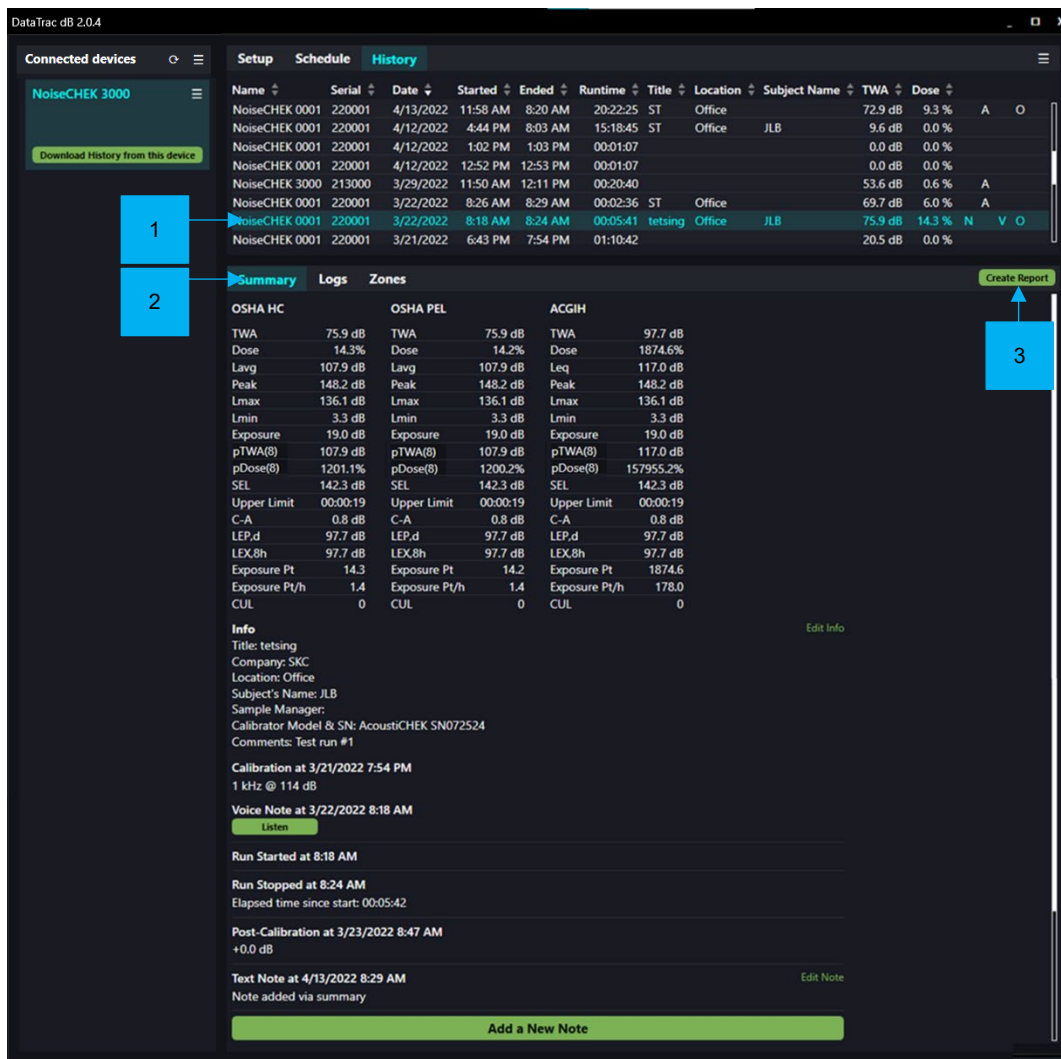

Figure 10. Summary
Summary – Viewing, Editing, and Reporting Data (Figure 10)
1. **In Summary:** Click Add a New Note (*see Figure 10*).